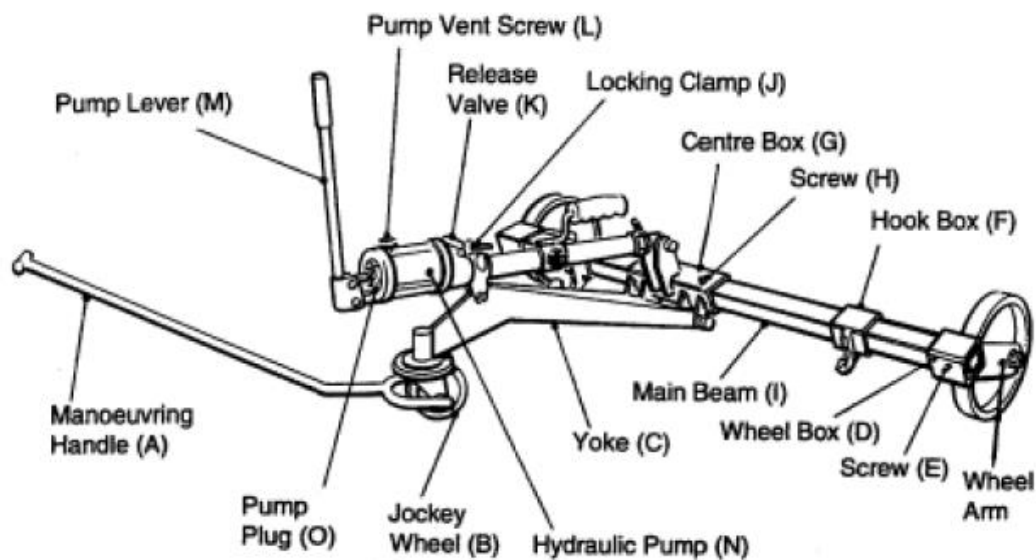

Figure 1.1 Lifter, Manhole Cover 4A
The Lifter, Manhole Cover 4 (LMC4 – see Figure 1.1 and 1.2) together with Lifter, Manhole Cover Part(s), may be used to remove and replace carriageway type cover (See Tables 1 and 2).
- Ensure all parts fit correctly, as identified in Figure 1.1 and 1.2.
Refer to Figure 1.1.
1. Slide centre box (G) onto the main beam (I) securing it in a central position using the securing screw (H).
2. Slide the hook boxes (F) onto the main beam placing one box on each side of the centre box.
- Slide the wheel boxes (D) onto each end of the main beam and secure using the securing screws (E) or split pins.
**Note:** It is important that the Items D, F and G are placed on the main beam in the correct attitude to each other ensuring the hooks on the hook box are facing the jockey wheel and wheels facing forward of the beam (see Figure 1.1).
- Connect the hydraulic pump (N) to the narrow end of the yoke (C) using the bolt and stiff nut. Do not overtighten the stiff nut as this will prevent the pump clamp (J) from pivoting on the yoke.
- If required, add hydraulic fluid as necessary through the filler plug (O) with the pump in the vertical position. (This task is usually performed by FESC personnel where Tellus 32 oil is available)
- Attach the manoeuvring handle (A) to the bracket holding the jockey wheel (B) and secure by screwing the adjustable pins into either side hole on the bracket.
2. Ensure the hook boxes are attached to the main beam in the correct plane (see Figs 1.1 & 1.2) so that when lifting, the hooks do not slip out from the keys.